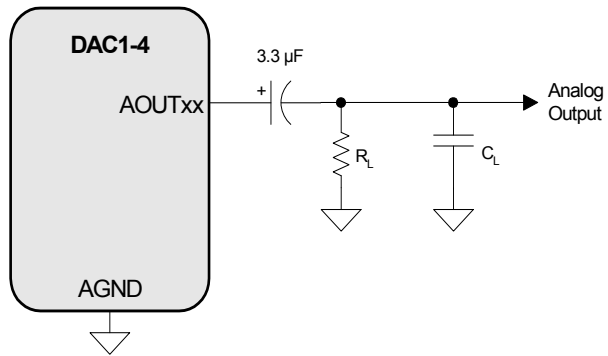

Figure 2. Output Test Circuit for Maximum Load
- Guaranteed by design. See Figure 2. R_L and C_L reflect the recommended minimum resistance and maximum capacitance required for the internal op-amp's stability and signal integrity. In this circuit topology, C_L will effectively move the dominant pole of the two-pole amp in the output stage. Increasing this value beyond the recommended 100 pF can cause the internal op-amp to become unstable. See "External Filters" on page 54 for a recommended output filter.